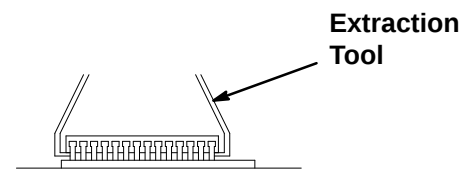

Fig. 11
4. Use an I.C. extraction tool to remove the old software chip. Pull the chip directly up. See Fig 11.